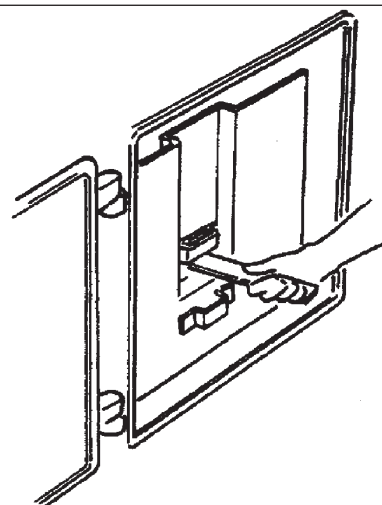

Fig. 7
- De-ash (Fig. 7) and remove dead fuel from bottomgrate, rake fuel into ashpan.
- De-ash (Fig. 7) dead fuel from bottomgrate, rake fuel into ashpan. Insert flay bayonet type gas poker on top of bottomgrate bars.
To de-ash, riddle the grate by agitating the riddling handle in an up and down manner about 20 times to free the grate of ash. See Fig. 7.